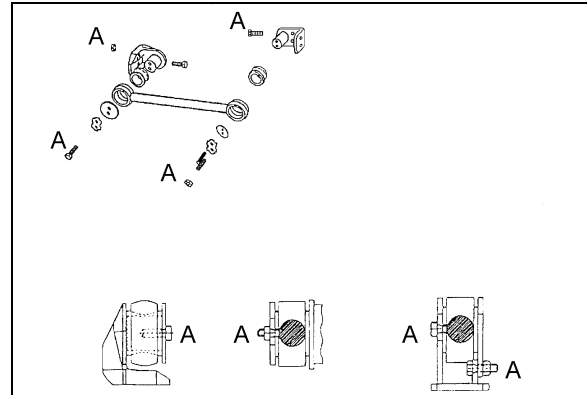

FIGURE 8: RADIUS ROD INSTALLATION 16028
- Lightly spray the radius rod support with water. Place the radius rod end over the radius rod support (Fig. 8).